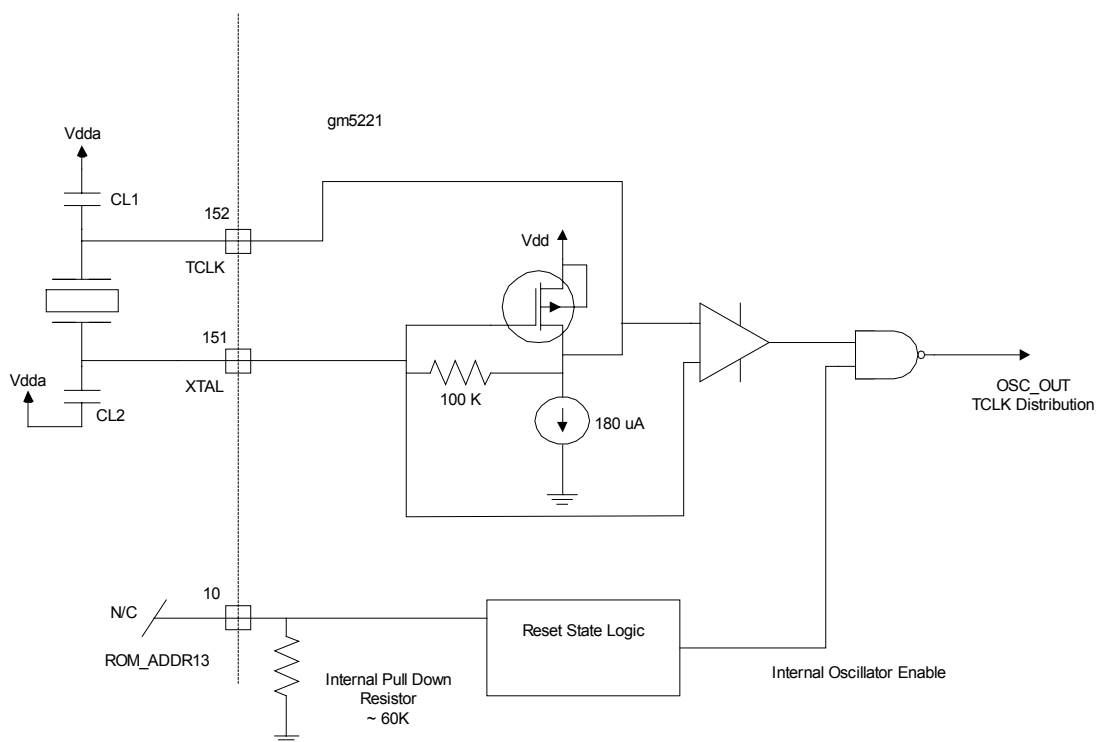

Figure 4. Using the Internal Oscillator with External Crystal
1. Crystal Input Clock (TCLK and XTAL). This is the input pair to an internal crystal oscillator and corresponding logic. A 14.3 MHz TV crystal is recommended. Other crystal frequencies may be used, but require custom programming. This is illustrated in Figure 4 below.